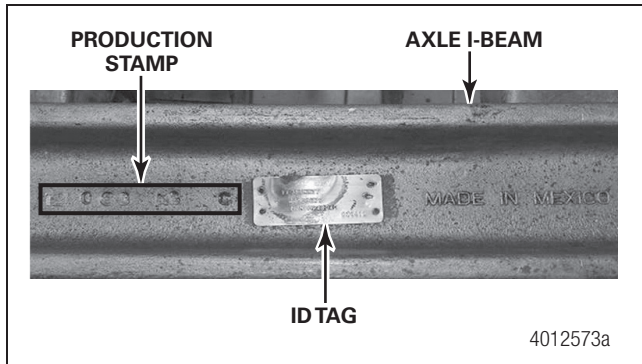
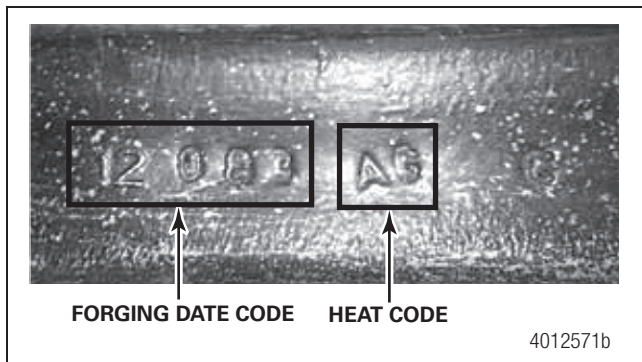
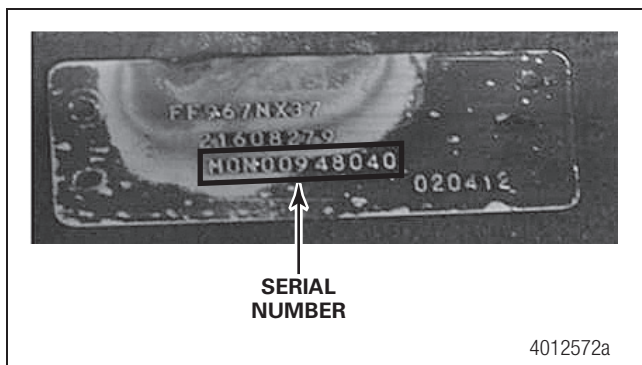

Figure 1
Figure 2
Figure 3
2. On the front of the axle, find and record the forging date code and heat code stamped on the axle, and the axle serial number located on the identification tag on the center of the axle. It may be necessary to clean paint and debris from the area in order to see the numbers. Figure 1, Figure 2 and Figure 3.